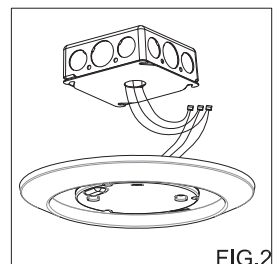

FIG.3
5. Tuck all the wires into the Outlet box. (FIG.3)
- This type of installation represents a 6 inch barrel. (FIG.3)